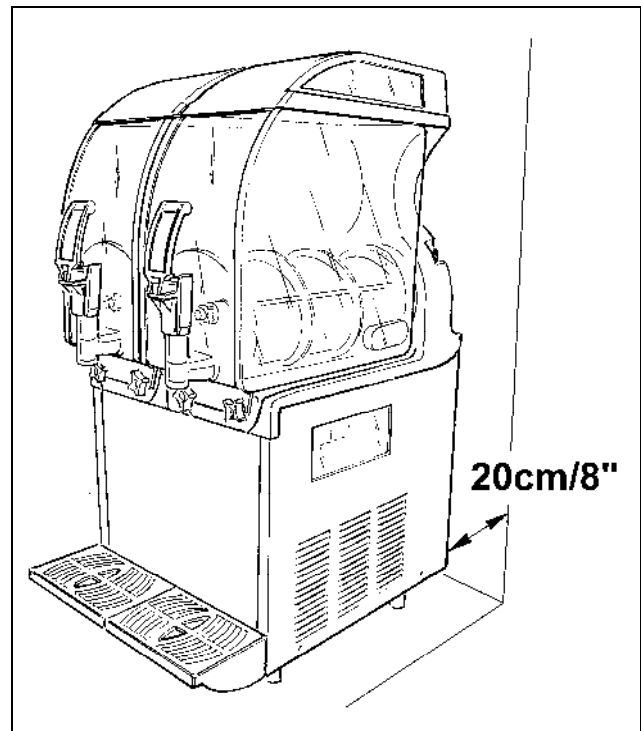

Fig. 2
- b) Rest the machine on a sturdy, flat surface making sure it is well ventilated by leaving a gap of 8 inches around it and do not install it near heat sources (fig.2); **we recommend you to maintain a room temperature between 75 and 100°F.**